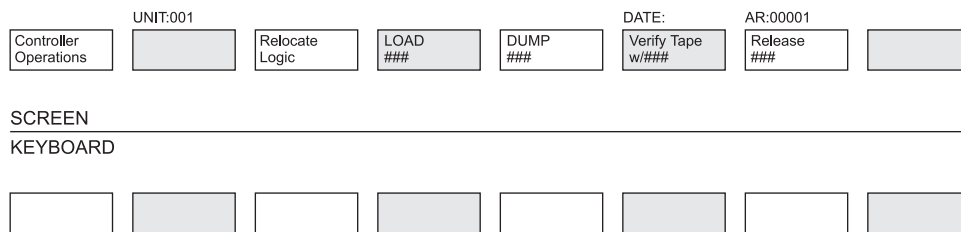

Figure 2-2
7. **Press the <Controller Operations> software label key. See Figure 2-2.**